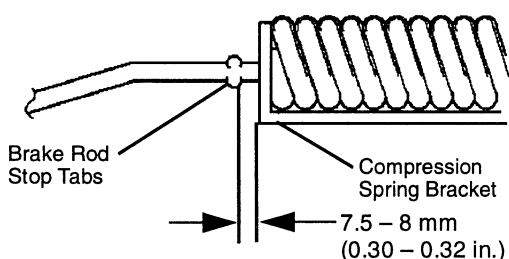

FIG. 38
- Measure distance between end of compression spring bracket and front edge of brake rod stop tabs. (See Fig. 38)